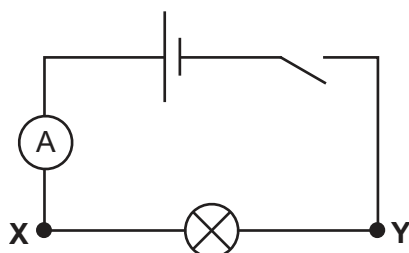

Fig. 5.1
- (iv) sufficient connecting leads to set up the circuit shown in Fig. 5.1.
1. The circuit is to be set up for candidates as shown in Fig. 5.1. Points **X** and **Y** must be labelled.
Reconnect the circuit as shown in Fig. 5.1 and disconnect the voltmeter.